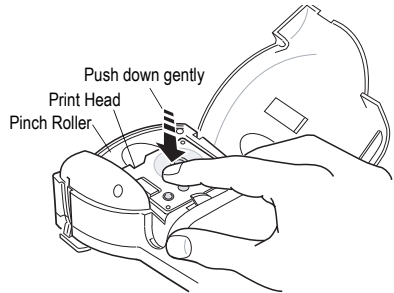

Figure 4
4. Insert the cassette with the tape and ribbon positioned between the print head and pinch roller. See Figure 4.